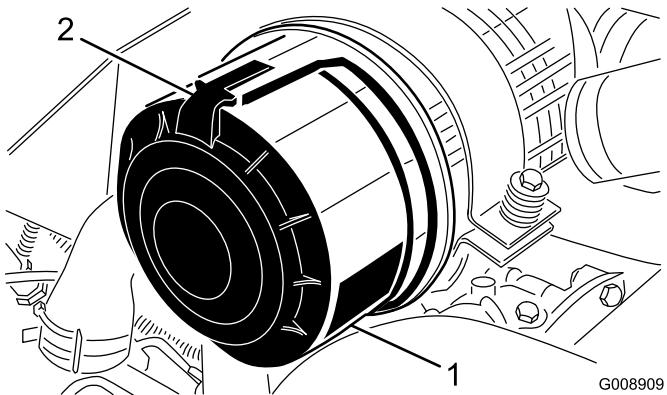

Figure 59
- Release the latches that secure the air cleaner cover to the air cleaner body (Figure 59).